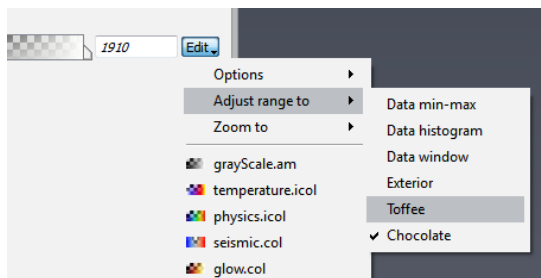

Figure 3.33: Adjusting range in a colormap port
- In the colormap part of the *Volume Rendering* module, you can press the Edit button or right-click in a color shaded area to choose a specific range in menu: entire data min-max, data window excluding *exterior ranges*, or specific range defined (see Figure 3.33). For instance, choosing Toffee will get the entire block back.